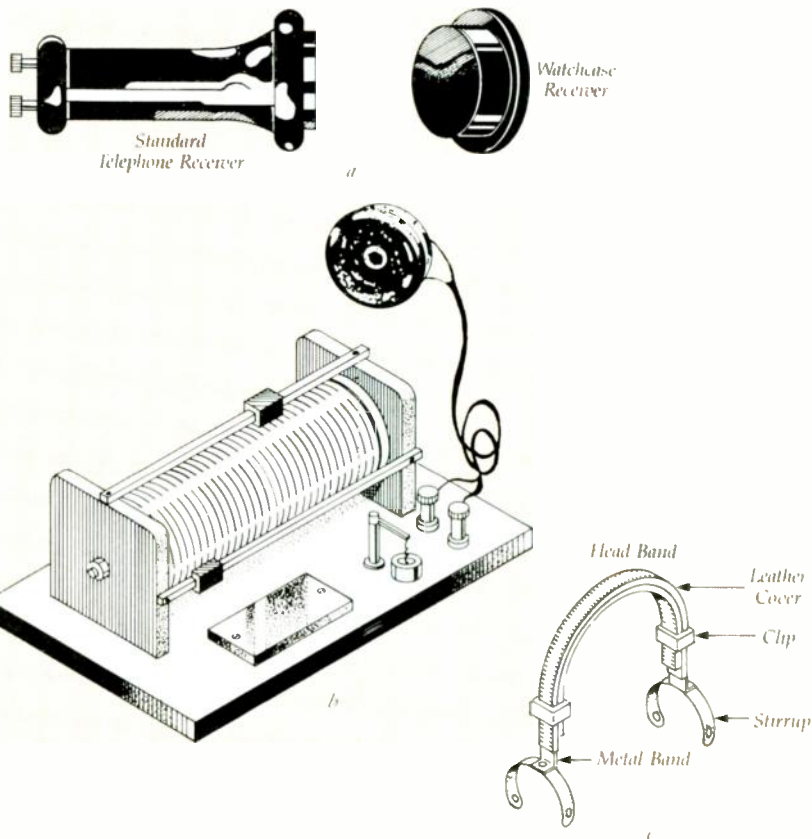

FIG. 8—THE DEVELOPMENT OF HEADPHONES: It started with a conventional telephone receiver, and ended in a headband.
To see how it works, let's use the spring element again as shown in Fig. 8. At some point near the fixed end of the bar, we will bond two of the strain gages to the upper surface, and the other two directly below them on the lower surface. In Fig. 8,  $R_t$  refers to the gages on top of the spring element and  $R_b$  refers to those on the bottom. When no force is applied to the bar, the top and bottom surfaces will be the same length. Since all four of the strain gages have the same initial resistance, the bridge will be balanced and the potential difference across the bridge will be zero. If we now apply a force to the end of the bar, the upper strain gages will increase in length and the lower gages will decrease. That is shown in Fig. 8 as  $R + r$
FIG. 8—WHEN FORCE IS APPLIED to the end of the spring arm, the resistance of the strain gages on its upper and lower surfaces change by equal but opposite amounts.
As shown in Fig. 8, headphones evolved from the telephone industry; in fact, the first earphone was the "roaring twenties" standard telephone receiver, and its spin-off *watchcase* receiver (Fig. 8-a)—which was specifically designed for use with a radio. Although both types worked with radio receivers, they had two problems: (A) they were fatiguing because they had to be supported by hand, as shown by the complete radio in Fig. 8-b; (B) they had a very low impedance of approximately 75 ohms. Eventually, their
impedance was increased to about 100 ohms, and finally to about 1000-3000 ohms. Fatigue was mitigated when the headband shown in Fig. 8-c was invented. It allowed the user to literally "wear" the receiver. When one or two receivers were mounted in a headband the entire assembly was called a "headphone," "headphones," or "headset."